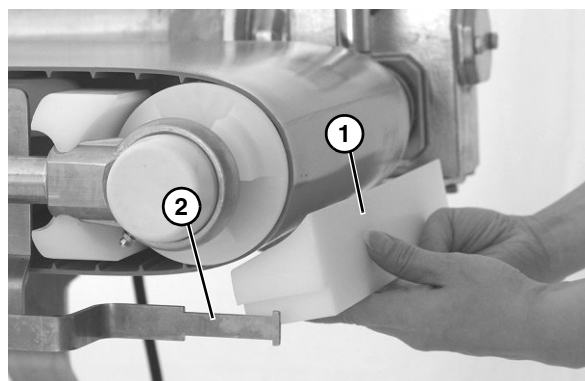
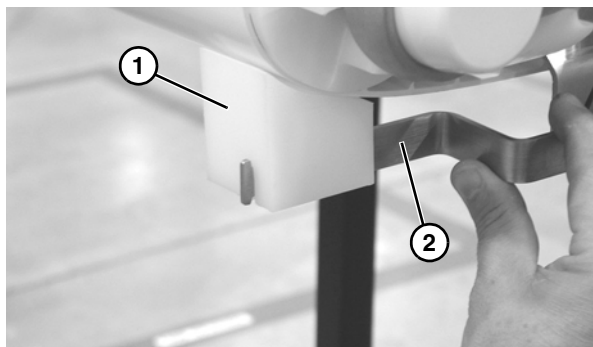

Figure 28 (Flat Belt)
Figure 29 (Cleated Belt)
2. Insert limiter (Figure 28, item 1) or (Figure 29, item 1) between support plates (Figure 28, item 2) or (Figure 29, item 2).